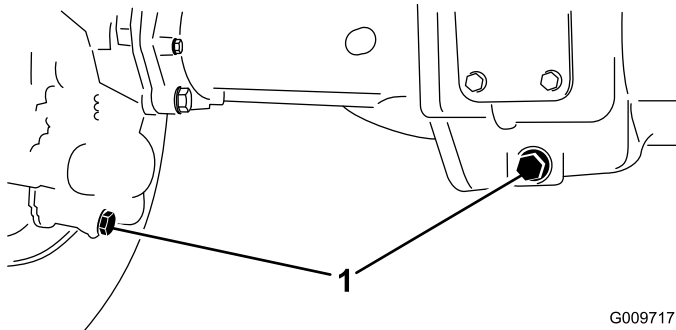

Figure 57
2. Clean the area around the 3 drain plugs—1 on each end and 1 in the center (Figure 57).